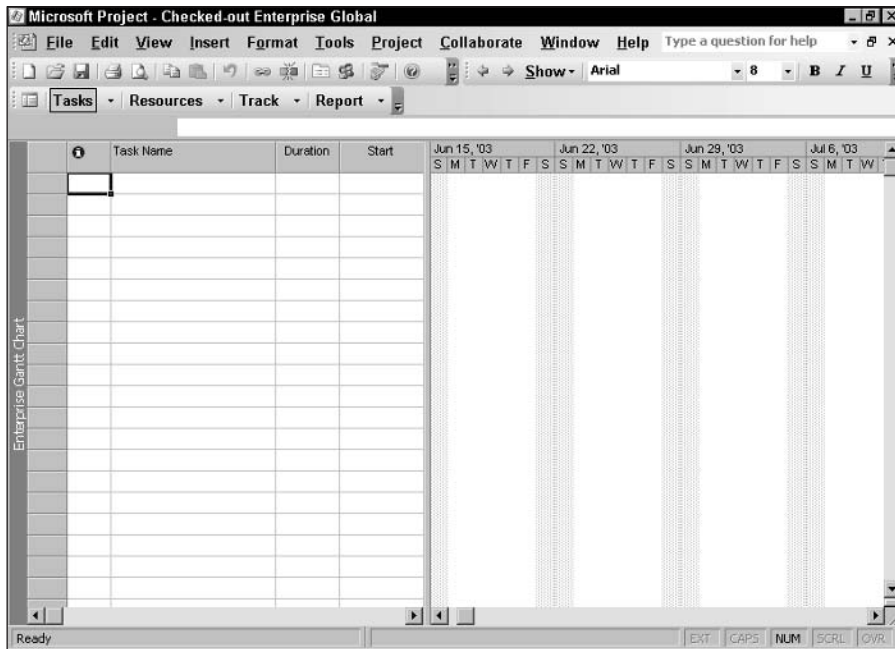

Figure 19-24: The most obvious difference between regular projects and the Checked-out Enterprise Global template in Project Professional is the title bar.
2. Choose Tools→Enterprise Options→Open Enterprise Global to open the Enterprise Global template code. Project displays the Checked-out Enterprise Global template (see Figure 19-24).